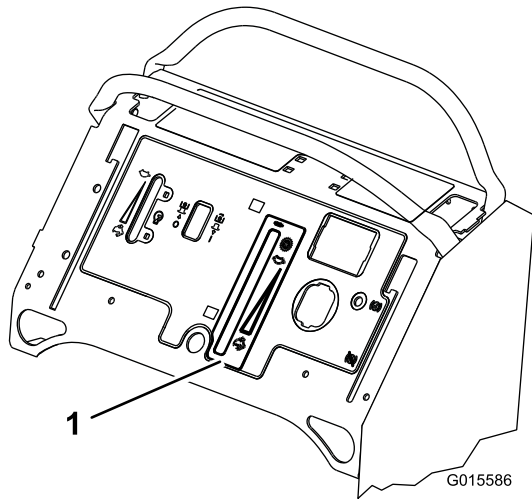

Figure 10
2. Install the decal, as shown, onto the machine (Figure 10).